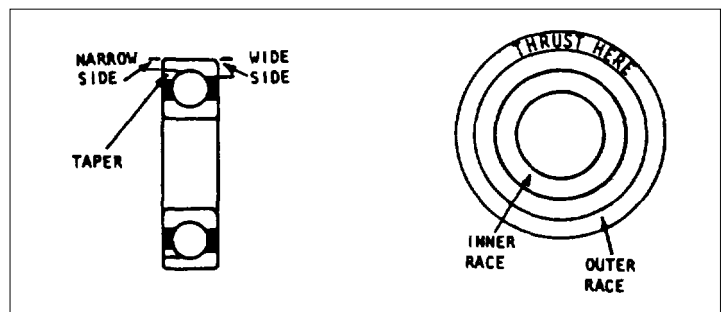
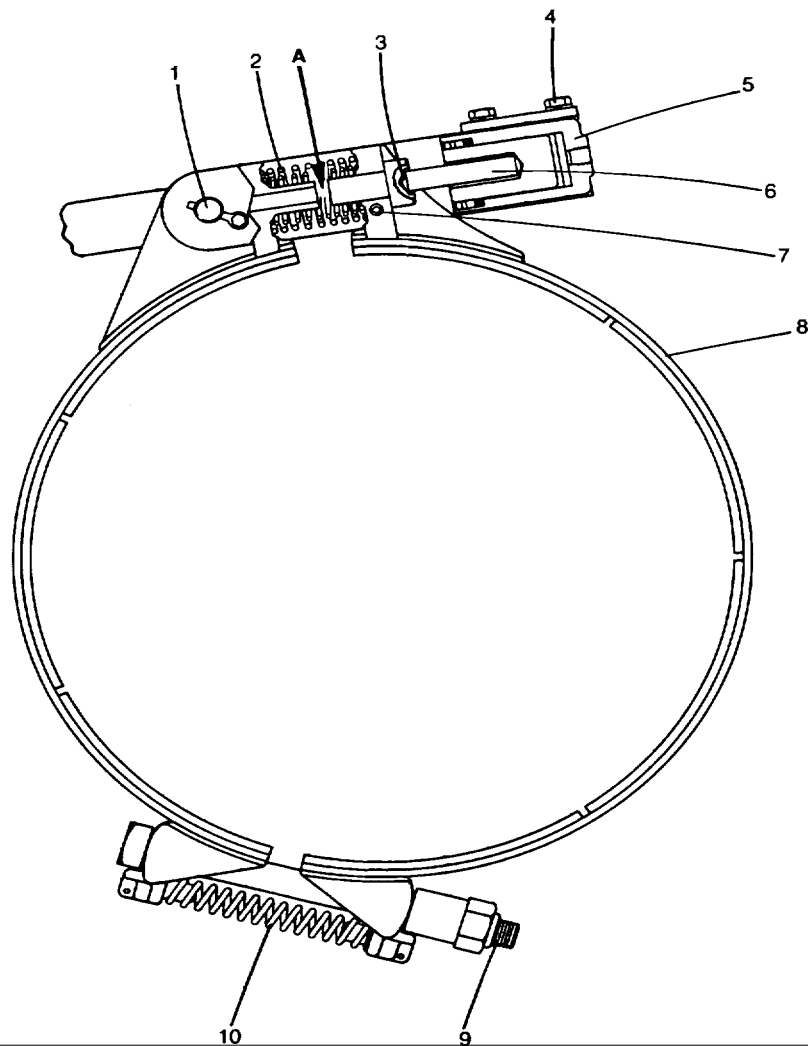

Fig. 4
Fig. 1
1.6 Planetary Housing Bearings (Fig. 1 and 4)
The two bearings on which the planetary case ride (5 and 16 in Fig. 1) are of a special design. They are manufactured with a tapered outer race for ease of installation of the balls at the bearing factory. Because of this taper, applying a force, or thrust, against the wrong side of the bearing can cause the bearing to come apart during operation. The outer race of these bearings is stamped "thrust here". This stamp is on the thicker face of the outer race (see Fig. 4). When assembling a planetary unit, the bearings must be installed with the thrust side facing away from the cluster gears. If the bearings are installed wrong, the planetary case can move outward resulting in seal leakage, and possible damage to the planetary housing.